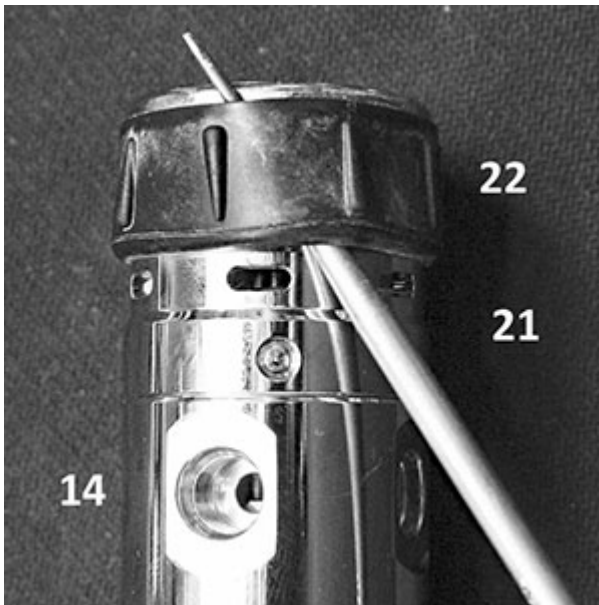
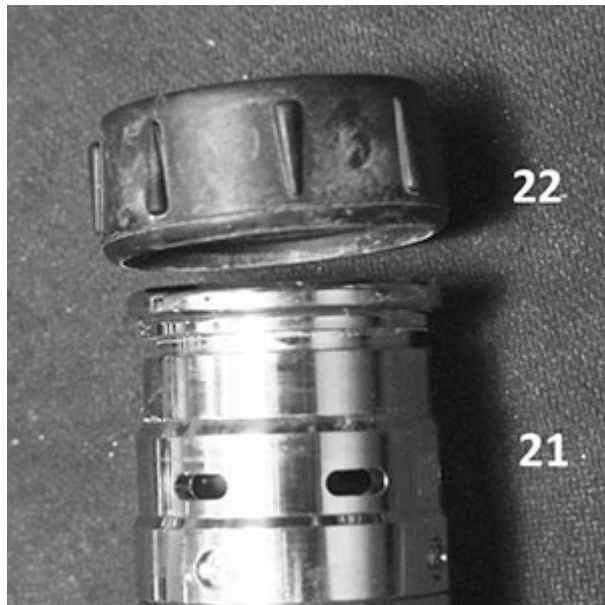

Fig. 5
Fig. 6
2. Using a brass pick, work it under the Plastic Cap (22) - Fig. 5 and remove it - Fig. 6.